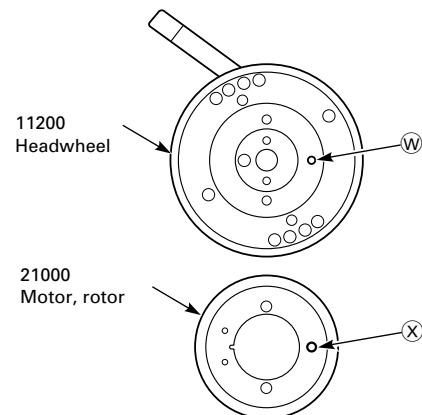

Fig. 8.39
**Note:** On reassembling the rotor (21000) the phase must be adjusted to that of the headwheel. The hole (W) of the headwheel and the hole (X) of the rotor (21000) must be on the same side as shown in Fig. 8.39. Tighten the screws (30000) for attaching the rotor (21000) and the stator (22000) using a torque of 2.5 to 3.5kg/cm.